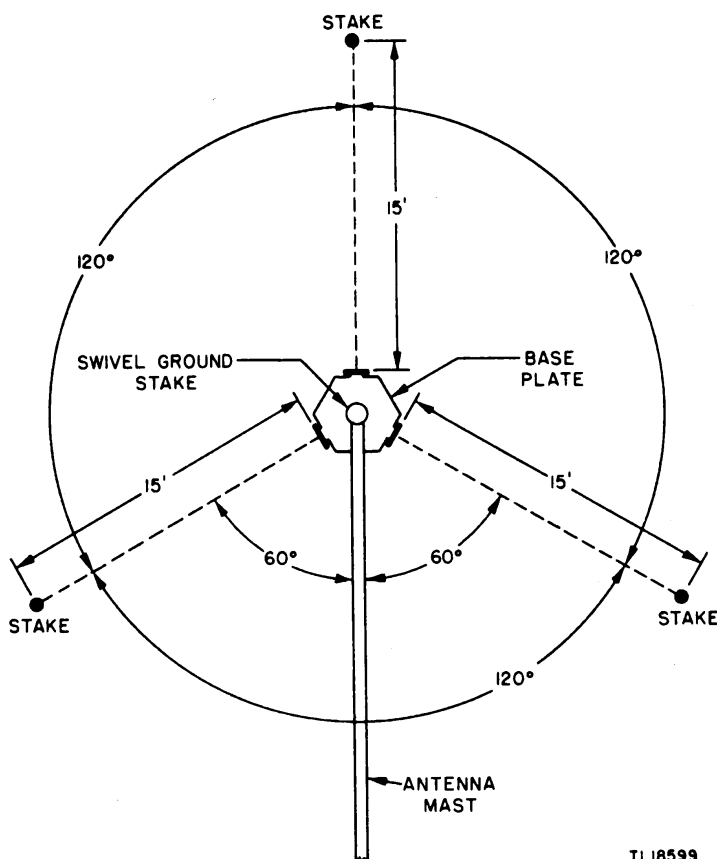

Figure 19. Antenna installation, stake layout.
a. **Siting (fig. 19).** After selecting a site for the operation of the radio set (fig. 42), locate a clearance in the center of it of at least 45 feet in diameter for erecting Antenna Assembly AS-110/TRC-7. There must be a clear line of sight between sets for ground operation.
(1) In the approximate center of the antenna location, place the base plate. With the mallet provided, drive the swivel ground stake through the center hole in the base plate.
(2) Pace off 15 feet from the base plate in the three directions indicated by the tabs on the plate (fig. 19). Drive each ground stake at the 15-foot mark.